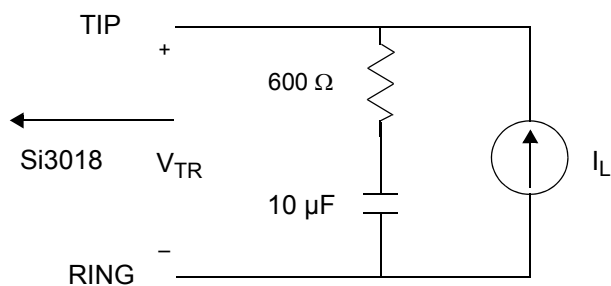

Figure 1. Test Circuit for Loop Characteristics
2. Measured at TIP and RING with 600Ω termination at 1 kHz, as shown in Figure 1 on page 5.